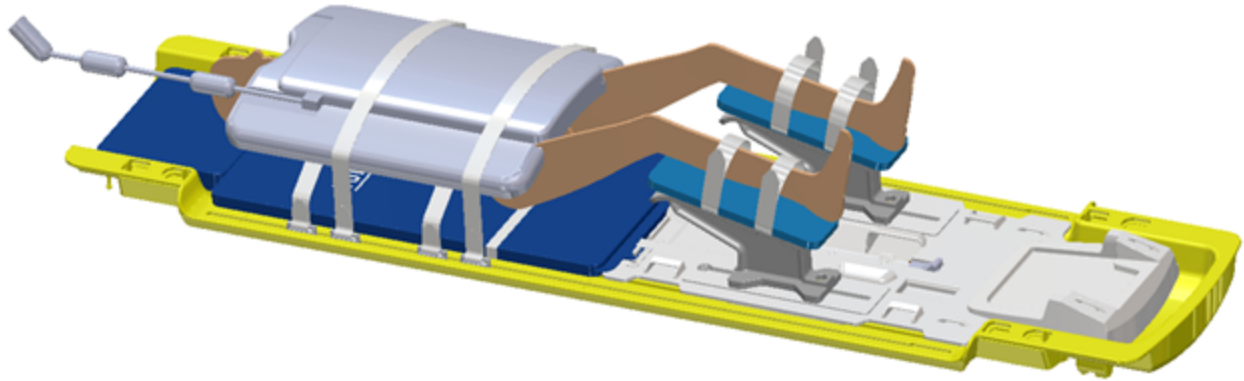

Figure 29: Placement of the anterior imaging coil
3. MRI Technologist: Strap the anterior imaging coil over the patient's pelvis and arms. The coil should cover the prostate, without interfering with the travel of the Positioning System (*Figure 29*).